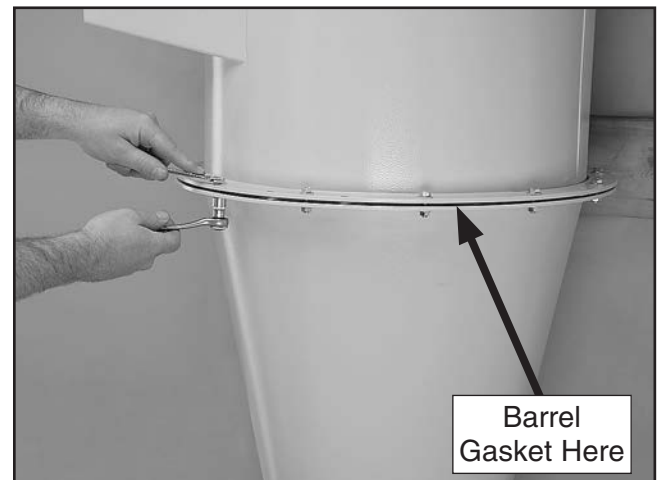

Figure 15. Cyclone funnel attached to intake barrel.
- Attach the cyclone funnel to the intake barrel with a barrel gasket between them, as shown in **Figure 15**, using (12) $\frac{5}{16}$ "-18 x 1" hex bolts, (24) $\frac{5}{16}$ " flat washers, and (12) $\frac{5}{16}$ "-18 hex nuts; also secure the wall mounting brace to the lip of the intake barrel/funnel assembly with the same hardware.